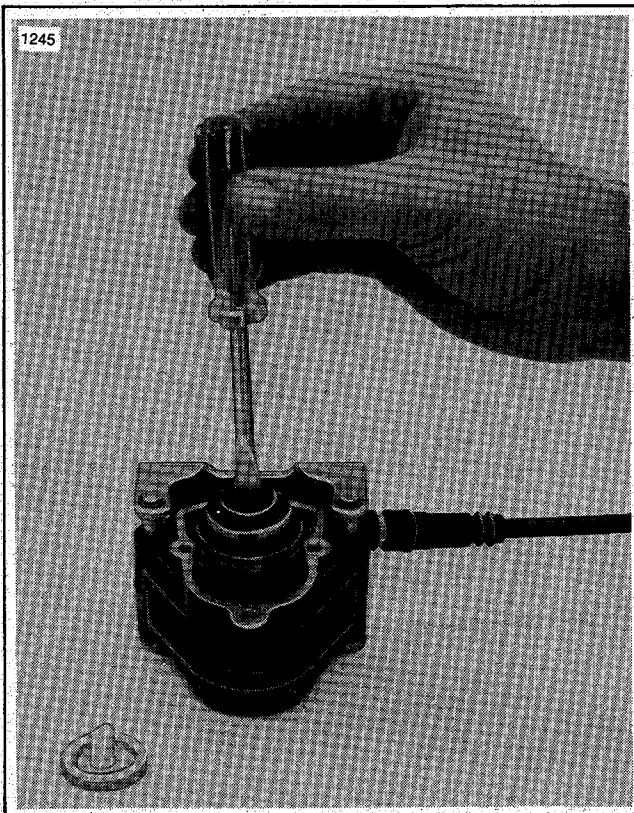

Figure 2-15. Resetting Self Adjuster
- Reset self-adjuster by lifting out plastic ratchet adjuster and turning adjuster bolt counterclockwise with a screwdriver until it stops (Figure 2-15). This will fully seat the adjuster.